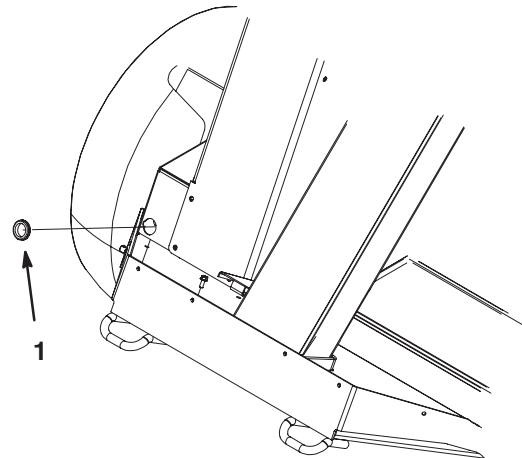

Figure 2
2. Install the rubber grommet into the hole in the panel (Fig. 2).